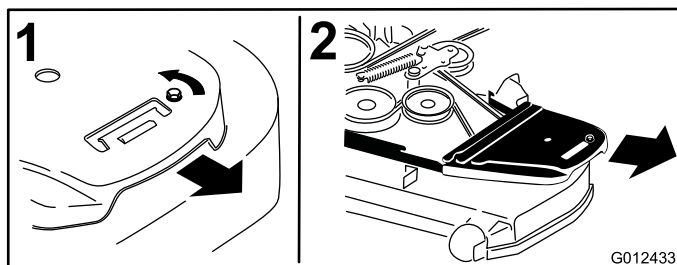

Figure 73
4. Remove the belt covers and the bolts attached to them (Figure 73).